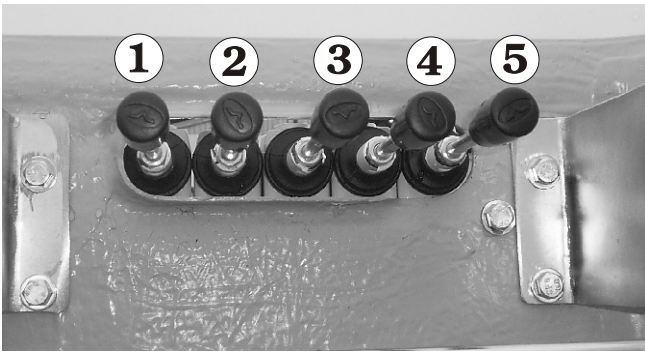

Figure 8.8 - Upper Controls - Non-Insulated Fibreglass Basket, Platform Movement Control Valve levers
8. **Platform Movement Levers:** Items 1 through 5 (see Figure 8.8) are the platform moving control levers.